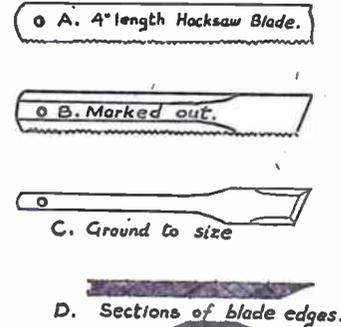

Fig. 1
Fig. 1 illustrates the development of a typical marking knife blade. A length of hacksaw blade, about 4ins., with the hole in one end, should be marked out and ground down with coarse and fine carborundum wheels to the shape as at (C). (D) shows the sections of the blade